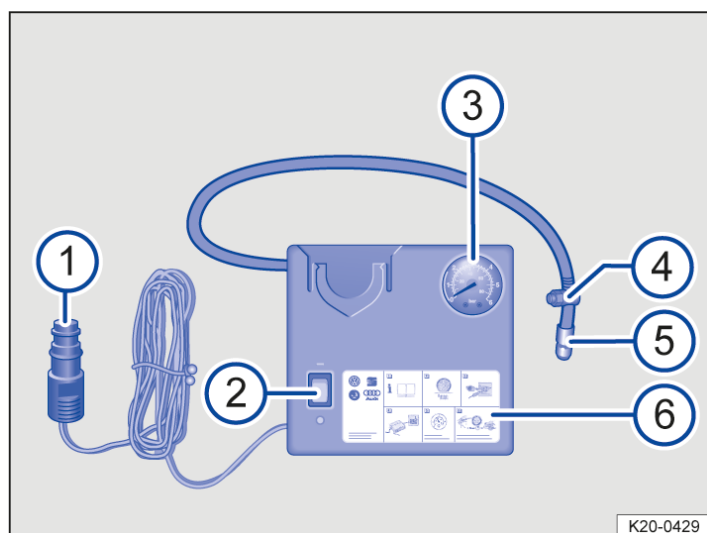

Fig. 2 Illustration: compressor from the breakdown set.
- Screw the tyre filler hose → Fig. 2 (5) of the air compressor tightly onto the tyre valve.
- Check that the bleed screw → Fig. 2 (4) is closed.
- Insert the 12-volt plug → Fig. 2 (1) into one of the vehicle's 12-volt sockets (→ Sockets).
- Use the ON/OFF switch → Fig. 2 (2) to switch on the air compressor.